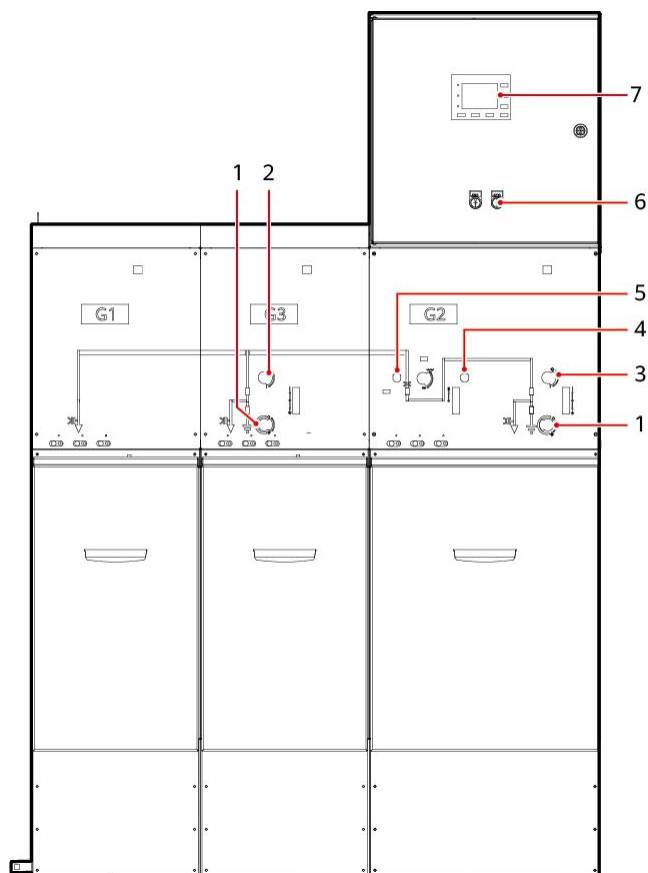

Figure 9-1 Appearance of a RMU
- Take the 8DJH36 (DCV) cabinet as an example to describe the components of a RMU in Figure 9-1